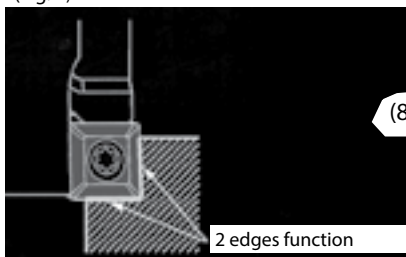

Fig. 1
- Both edges wear at the same time depending on ap. The insert uses 2 edges instead of 4. (Fig. 1)